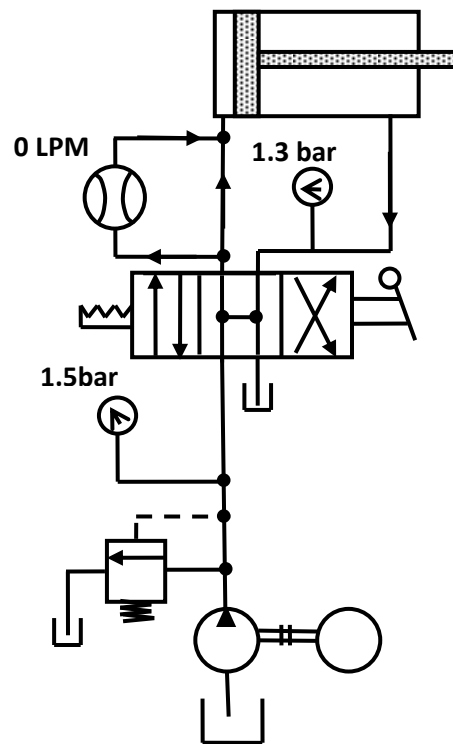

Figure 1.22 Application of 4/3-way valve – open neutral.
- 6. Application of 4/3 DCV (open neutral) for controlling a double-acting cylinder:** Figure 1.22 shows the four-way with an open neutral controlling a cylinder. Flow always follows the path of least resistance, so the pump flow goes back to the tank. Because the outlets are also connected to the tank, the cylinder floats when this valve is in neutral. This is desirable in a circuit in which some external force must position the cylinder when in the neutral.